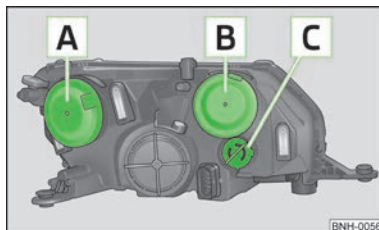

Fig. 126
- Remove the rubber cover **A** » Fig. 126 on page 160 » page 160.
- > Remove the rubber cover **B** » Fig. 126 on page 160 » page 160.